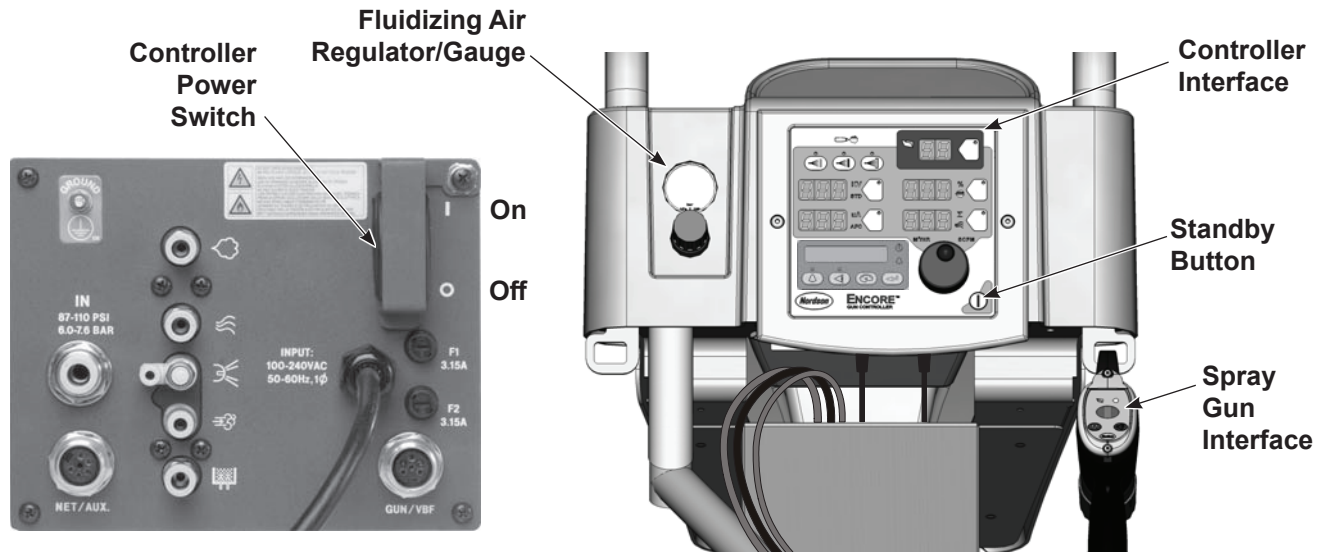

Figure 4-5 System Controls – Mobile System Shown
4. See Figure 4-5. Make sure the spray gun is not triggered, then turn on controller power. The displays and icons on the controller interface and gun interface should light.
Use the Standby button shown in Figure 4-5 to shut off the interface and disable the spray gun during breaks in production. When the controller interface is off the spray gun cannot be triggered, and the spray gun interface is disabled.